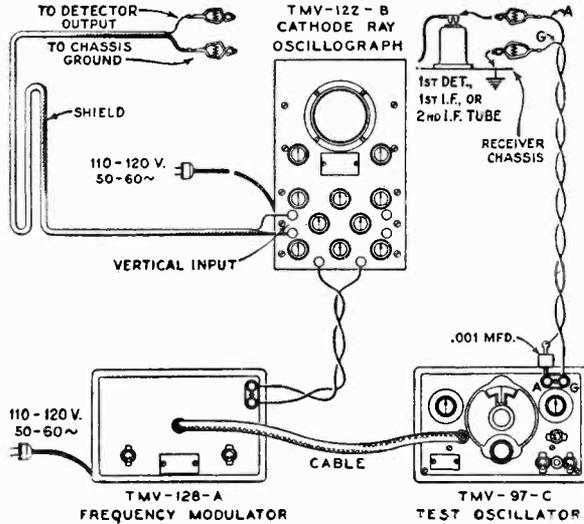
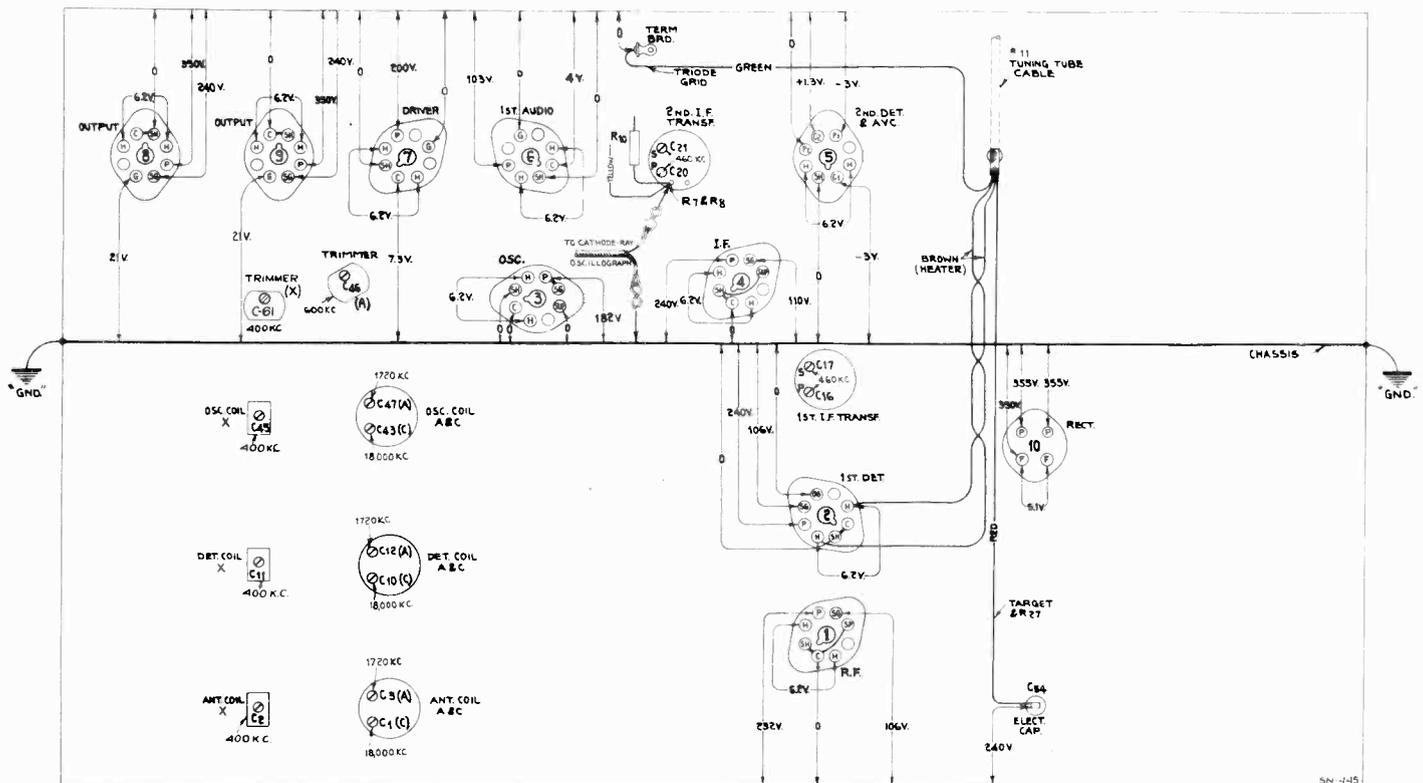

Figure 4—Alignment Apparatus Connections
Figure 5—Radiotron Socket Voltages
The four trimmers of the two i-f transformers are located as shown by Figure 5. Each must be aligned to a basic frequency of 460 kc. The last transformer must be aligned firstly and the first transformer aligned secondly. For such a process, it is necessary to feed the output of the Full Range Oscillator to the stages in their order of alignment, adjusting the trimmers of each transformer and observing the effect at the second detector output on the Cathode-Ray Oscilloscope. The proper point of connection of the Oscilloscope is with its vertical "high" input terminal attached to the juncture of R-7 and R-8, as illustrated in Figure 5, and with the "0" or ground terminal to the chassis. The "Ext. Sync." terminals of the Oscilloscope should be connected to the Frequency Modulator as shown by Figure 4. A .001 mfd. capacitor installed in series with the Oscillator "Ant." lead will prevent the voltages of the stage under alignment from becoming upset. The vertical "A" amplifier should be "On" for the ensuing adjustments and its gain control kept at maximum. For each adjustment, the Oscillator output must be regulated so that the image obtained on the Oscilloscope screen will be of the minimum size convenient for accurate observation. Proceed further as follows:
- (b) Attach the output of the test Oscillator between the control grid cap of the RCA-6K7 i-f tube and chassis ground as shown typically by Figure 4. Tune the Oscillator to 460 kc. and set its modulation switch to "On." Regulate its output until the signal produces a wave pattern on the Oscillograph screen, adjusting the Oscillograph controls to give a shape which is convenient for peak indications. Cause the image to stand still on the screen by manipulation of the frequency and synchronizing controls. Then carefully tune the two trimmers C-20 and C-21 of the second i-f transformer to produce maximum amplitude (vertical deflection) of the oscillographic image. Under this condition the transformer will be sharply resonated to 460 kc.
- (c) The Frequency Modulator should then be placed in operation and interconnected with the Full Range Oscillator by means of the special shielded patch cord. Figure 4 shows the proper arrangement. Set the Frequency Modulator sweep range switch to its "Lo" position and turn the Oscillator modulation switch to "Off." Change the timing control of the Oscillograph to "Ext." and place the range switch to its No. 2 position. Then carefully shift the tuning of the Oscillator so as to increase its frequency, until two distinct and similar waves appear on the Oscillograph screen and become exactly co-incident at their highest points. This condition will be found
oscillator coil trimmers are shown by Figure 5. The test Oscillator should be removed from connection with the i-f system and its output connected to the antenna-ground terminals of the receiver. No changes are to be made in the connections of the Oscillograph at the second detector. During the following adjustments, the Oscillator output should be regulated as often as is necessary to keep the oscillographic image as low as is practically observable. Adherence to this procedure will obviate the broadness of tuning that would result from a.v.c. action on a stronger signal. Proceed with the adjustments as follows:
- (a) With the receiver range switch in its Band A position, tune the station selector until the dial pointer is at a reading of 1720 kc. Adjust the test Oscillator to 1720 kc. (modulation "On" and Frequency Modulator disconnected) and increase its output to produce a registration on the Oscillograph. Carefully align the oscillator, detector and antenna trimmers, C-47, C-12 and C-3 respectively, so that each brings about maximum amplitude of output as shown by the wave on the Oscillograph. It will be necessary to have the timing control of the Oscillograph on "Int." for this operation. After each trimmer has been peaked, the Oscillograph timing control should be set to "Ext." and the Frequency Modulator placed into operation with its connections to the Oscillator and Oscillograph made in accordance with Figure 4. Turn the modulation switch of the Oscillator to "Off" and retune the Oscillator (increase frequency) until the forward and reverse waves show on the Oscillograph and become coincident at their highest points. Adjust the trimmers C-47, C-12 and C-3 again, setting each to the point which pro-
The voltage values indicated from the Radiotron socket contacts to chassis on Figure 5 will serve to assist in the location of causes for faulty operation. Each value as specified should hold within $\pm 20\%$ when the receiver is normally operative at its rated supply voltage. Variations in excess of this limit will usually be indicative of trouble in the basic circuits. The voltages given are actual operating values and do not allow for inaccuracies which may be caused by the loading effect of a voltmeter's internal resistance. This resistance should be duly considered for all readings. The amount of circuit resistance shunting the meter during measurement will determine the accuracy to be obtained, the error increasing as the meter resistance becomes comparable to or less than the circuit resistance. For the majority of readings, a meter having an internal resistance of 1000 ohms per volt will be satisfactory when the range used for each reading is chosen as high as possible consistent with good readability.